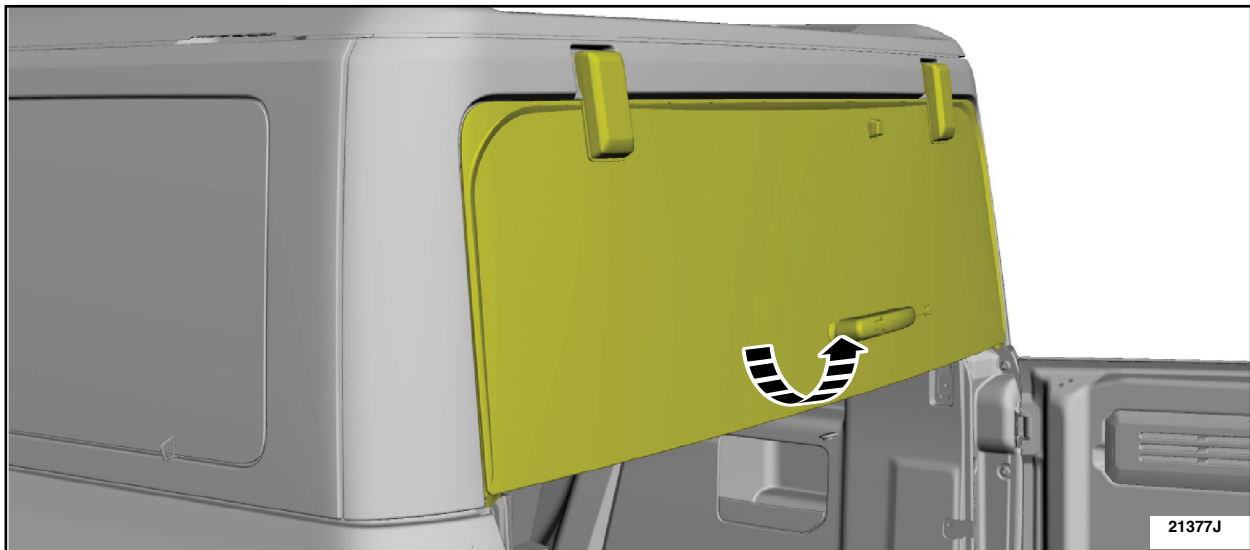

FIGURE 15
2. Open the liftgate window glass. See Figure 15.